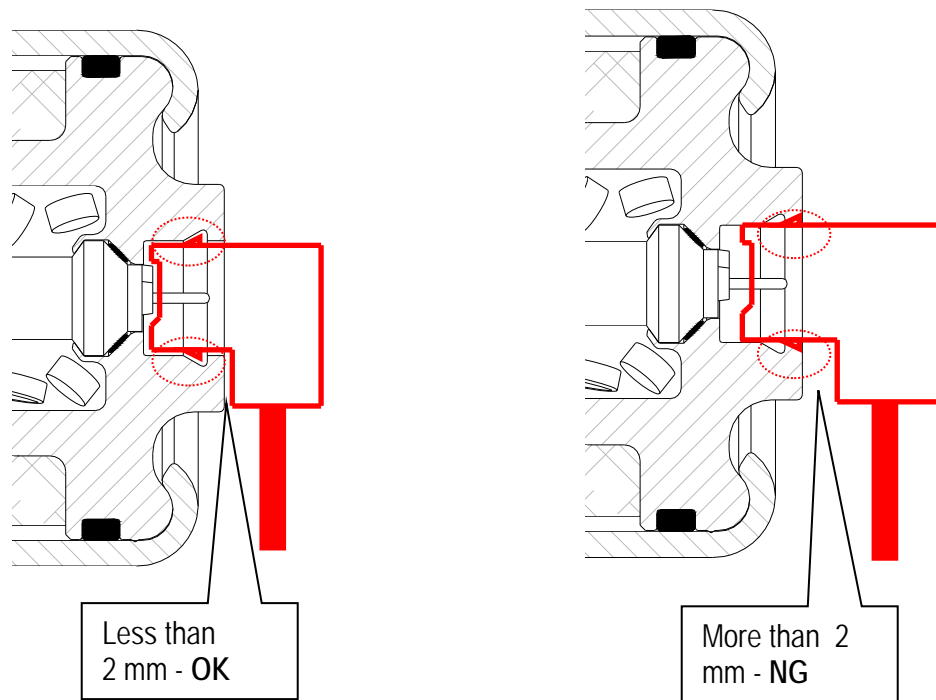

Figure 28
- Make sure harness connector is fully engaged / seated (see Figure 28).